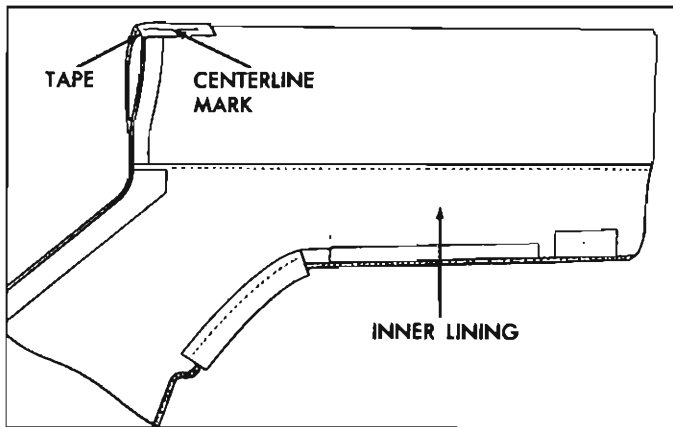

Fig. 56—Marking Folding Top Assembly
22. Fold new top material in half so that inner lining of top material is exposed (fig. 56). Install a 6" piece of tape on inner surface at centerline fold of new top material (fig. 56). Using a pencil, mark the approximate centerline of new top material along entire length of tape. Be sure back will be visible inside of body after new top is installed on convertible top framework.